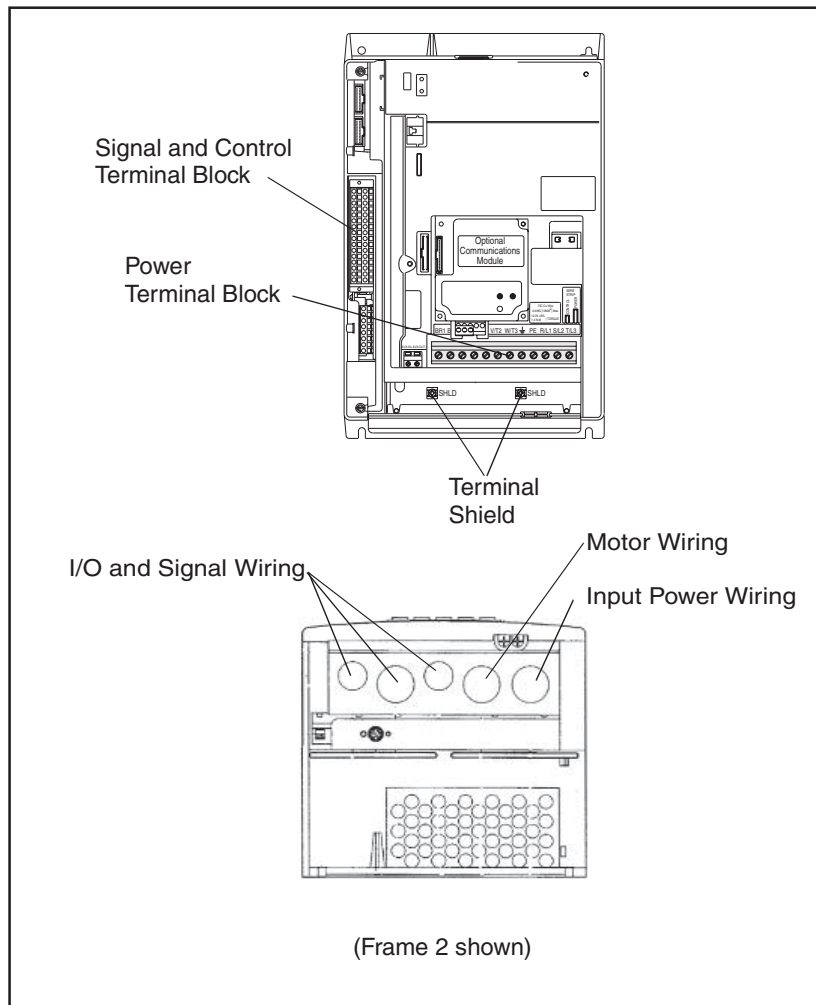
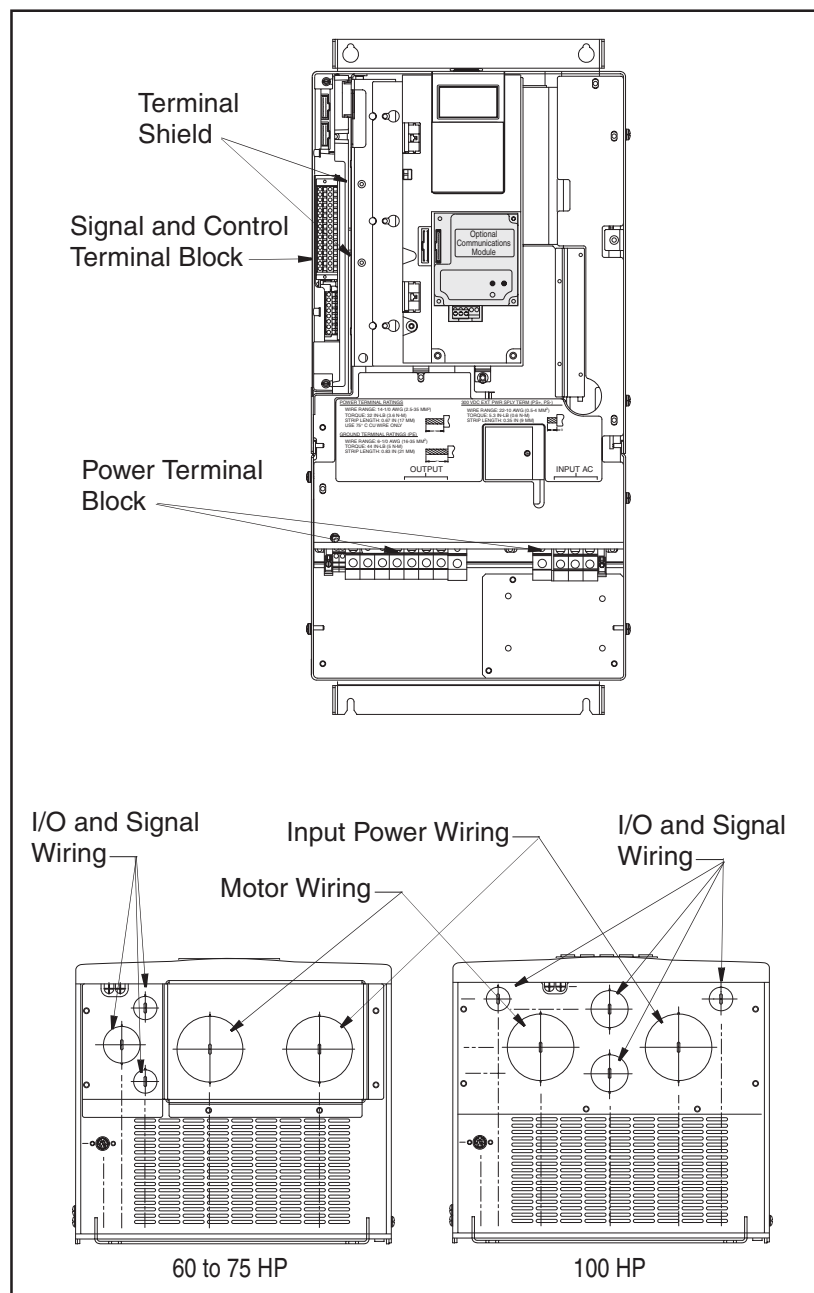

Figure 5.1 – Wire Routing and Terminal Block Locations (Frame 2 Shown)
Figure 5.2 – Wire Routing and Terminal Block Locations (Frame 5 Shown)
Figure 5.1 shows the wire routing, grounding terminal, and power terminal blocks of the SP600 AC drive.
The SHLD terminal located on the Cable Entry Plate provides a grounding point for the motor cable shield. Refer to figure 5.1 or figure 5.2 for location.
- Step 1. Wire the three-phase AC output power motor leads by routing them according to drive type. See figure 5.1 to for wire routing locations. Maximum power wiring sizes are shown in table 4.1.
- Step 1. Wire the AC input power leads by routing them according to drive type. Refer to figure 5.1. Maximum power wiring sizes are listed in table 4.1.